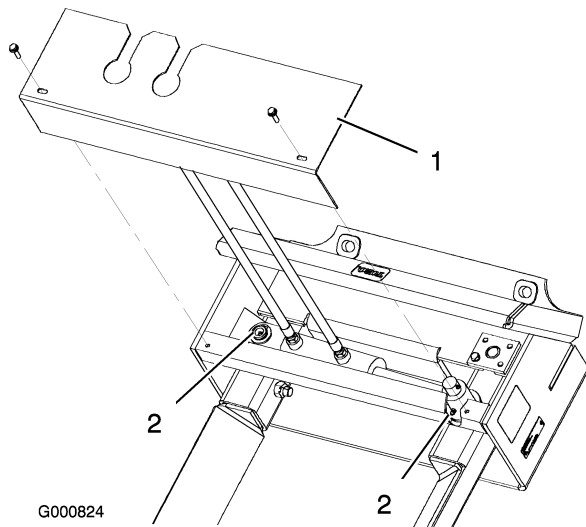
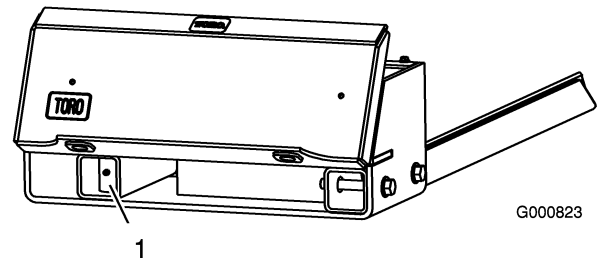

Figure 4
Figure 5
2. Remove the two bolts securing the cover and remove it (Figure 4).
4. Connect a grease gun to each fitting (Figure 4 and Figure 5).
3. Clean the grease fittings (Figure 4 and Figure 5) with a rag. Make sure to scrape any paint off of the front of the fitting(s).